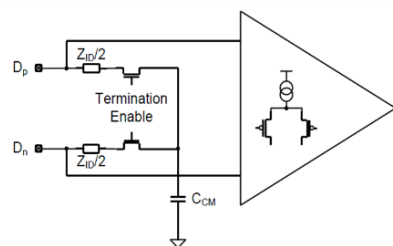
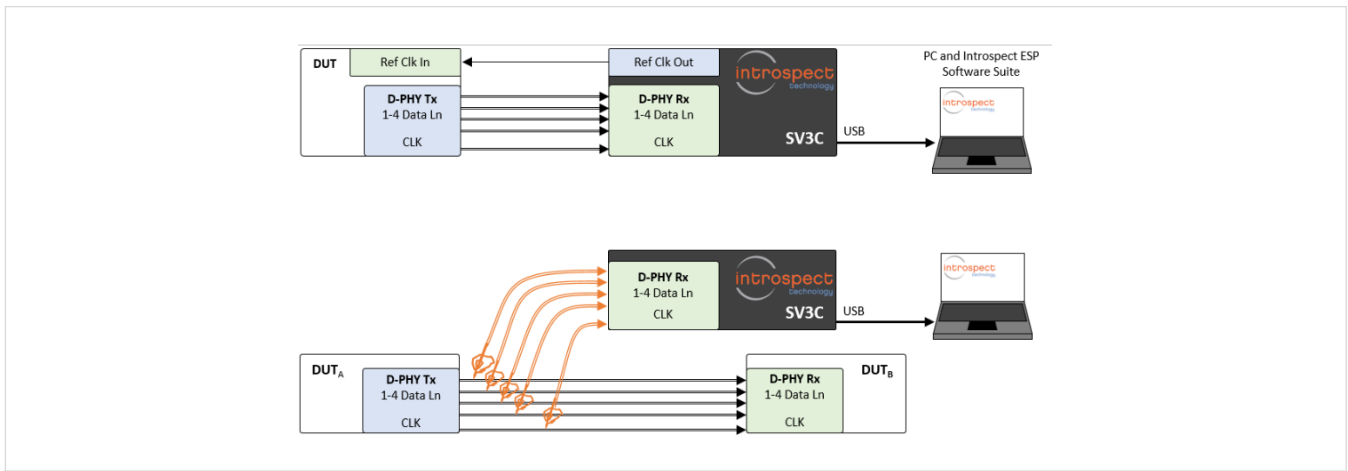

Figure 1: SV3C receiver illustration showing automatic termination switches.
Figure 2: (a) Illustration of the DPRX as a terminating end-point receiver, or (b) while probing a complete D-PHY link.
The SV3C-DPRX is a complete, integrated, 4-lane D-PHY receiver providing the analog front-end circuitry for D-PHY as well as a complete protocol back-end. As shown in Figure 1, each lane contains low power (LP) threshold voltage detectors, dynamically controlled D-PHY termination resistors, and fully differential high speed (HS) receivers. The real-time behavior of the DPRX enables broad acquisition capabilities on physical-layer and protocol-layer events as detailed in Figure 2. The figure illustrates two common setups for deploying the DPRX, which can be used as either a terminating receiver or to probe live links.